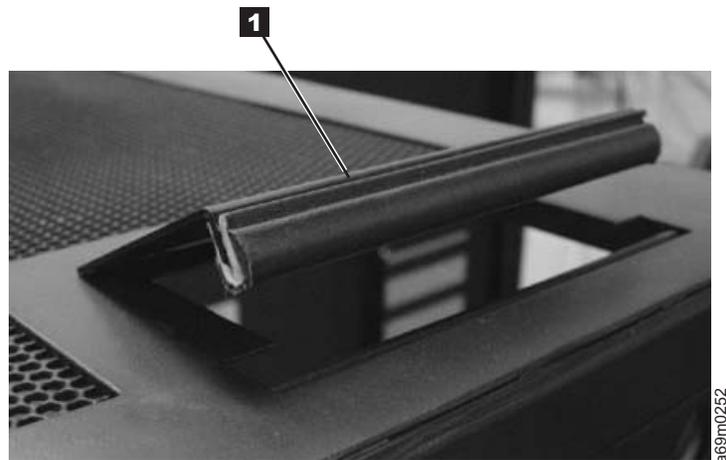

Figure 23. Opening the cable access door at the top of a frame
1. Open the cable access door at the top of the frame (see **1** in Figure 23).